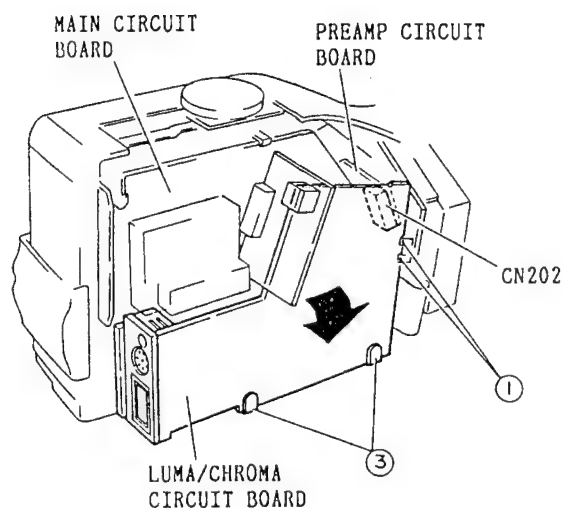

Fig. 2-20
10. Open the luma/chroma circuit board. (See Fig. 2-20)
1. Release two (2) tabs, and while disconnecting connector CN202 from the preamp circuit board, open the luma/chroma circuit board in the direction of the arrow. (See Fig. 2-20)
3. Release two (2) tabs of the circuit board holder and remove the luma/chroma circuit board. (See Fig. 2-20)
1. Open the luma/chroma circuit board. (See Fig. 2-20)
2. Open the luma/chroma circuit board. (See Fig. 2-20)